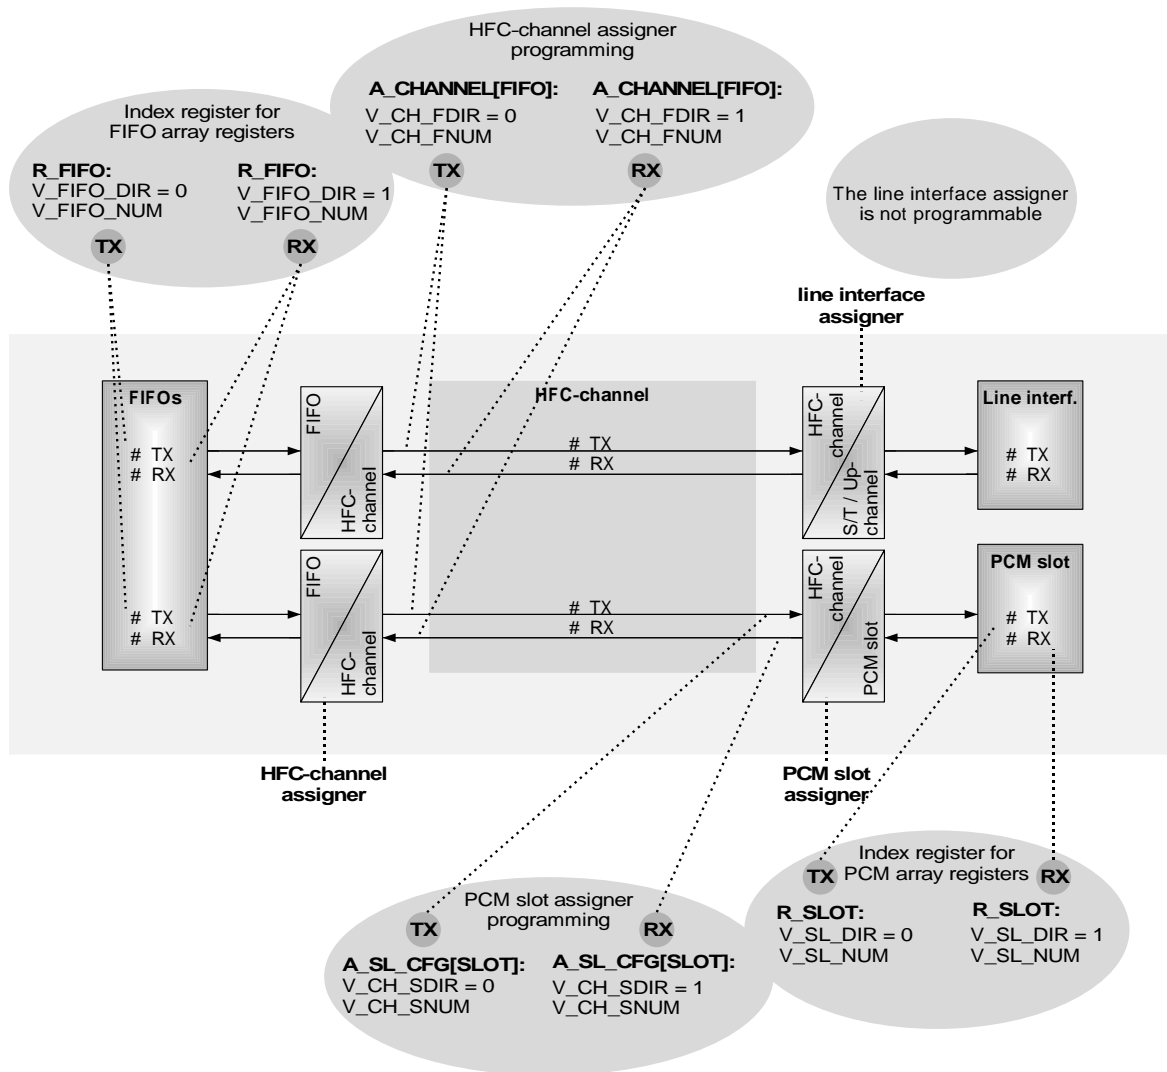

Figure 3.5: Overview of the assigner programming
The three different assigner types of XHFC-1SU are shown in Figure 3.5. Assigner programming is always handled with array registers. This can be a FIFO array register or a PCM slot array register.
- The HFC-channel assigner programming depends on the data flow mode which is described in Section 3.4. This section explains in what cases the assigner is programmable and how this can be done. Figure 3.5 gives a hint, that the programming procedure is handled with array register A\_CHANNEL[FIFO]. Please see section 3.4 for details and restrictions.